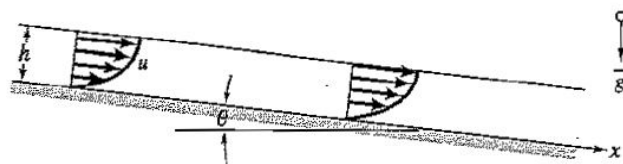

Figure P8.42
8.42 A thin layer of water of depth h , flows down a plane inclined at an angle θ to the horizontal, as shown in Figure P8.42. The flow is laminar, and fully developed (velocity does not change in the x -direction).